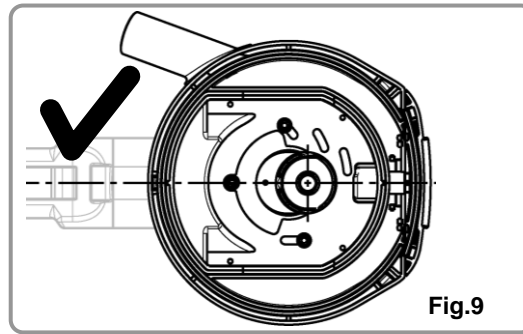
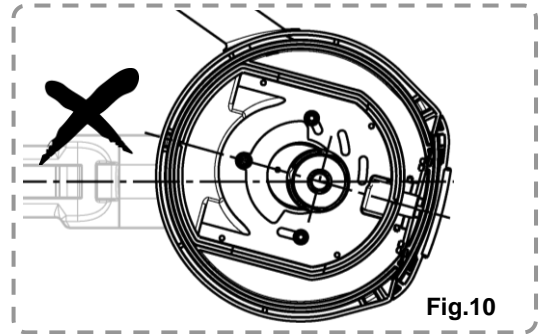

Fig.9
Fig.10
5. Match the center line of [a] Main Unit and the Angle Grinder.(Fig.9)(Fig.10)